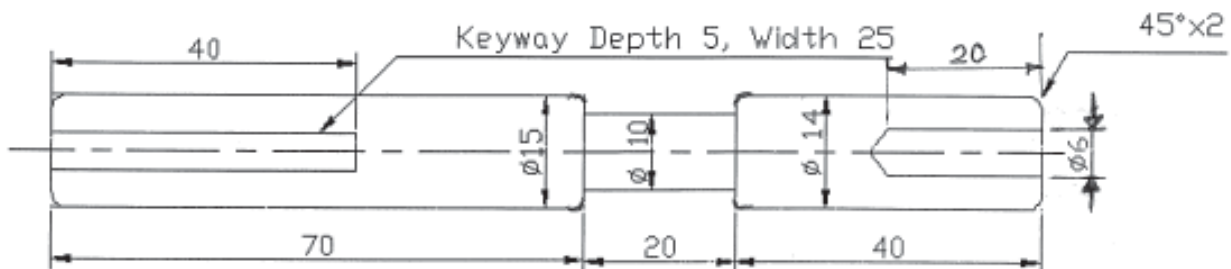

Fig.No.1.Guidabar
1. Referring to Fig. No. 1, design the set of plate types of cams for a single spindle automat machine. Assume suitable data of machining parameters for mild steel material. The bar stock is $\Phi 15 \times 130$ and 200 pieces are to be manufactured. Also draw the layout for turret cam.